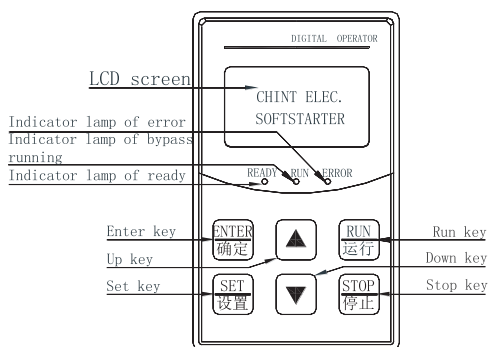

Figure 6.1a) Operating Panel Diagram
6.4.1 The operation panel diagram is shown in Figure 6.1a: